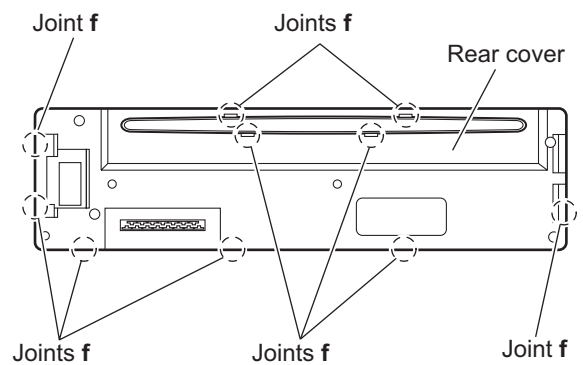

Fig.9
- (2) Release the ten joints **f** and remove the rear cover. (See Fig.9)